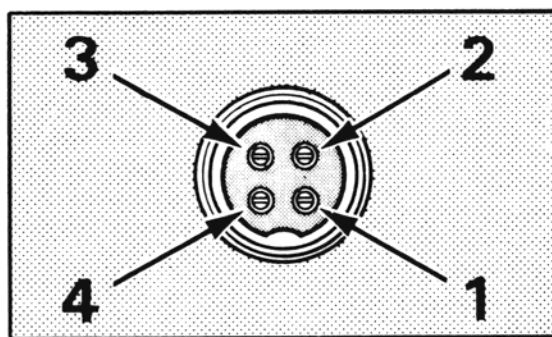

Fig. 4. Microphone plug pin numbers viewed from rear of pin receptacle.
5. The wires must now be soldered to the pins as indicated in the above wiring tables. If a vise or clamping tool is available it should be used to hold the pin receptacle body during the soldering operation, so that both hands are free to perform the soldering. If a vise or clamping tool is not available, the pin receptacle body can be held in a stationary position by inserting it into the microphone jack of the front panel. The numbers of the pins of the microphone plug are shown in Fig. 4, as viewed from the back of the plug. Before soldering the wire to the pins, pre-tin the wire receptacle of each pin of the plug.